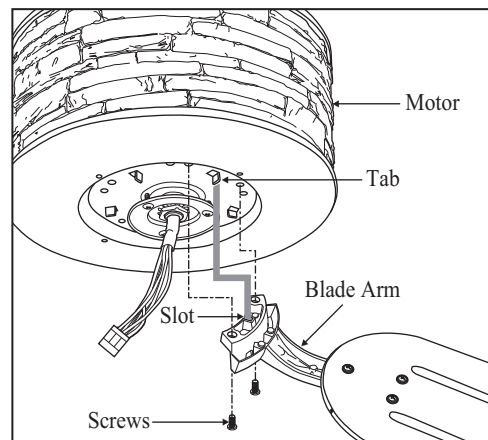

Figure 12
3. Fasten the blade assemblies to the motor housing by lining up the slots of the blade arms with the tabs on the motor housing, then tighten the two screws and washers already installed in the blade arms. (Figure 12)